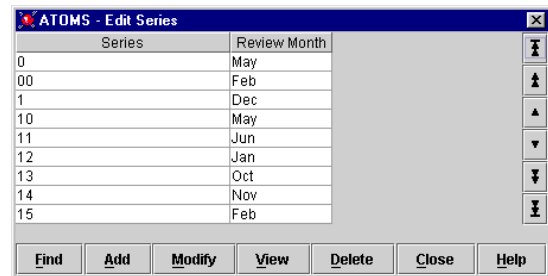

Figure 4-13. TO Series
- 5) From the splash screen, select **Edit, Series**. The **Edit Series** window appears (Figure 4-13), displaying the newly created TO Series and their review months.